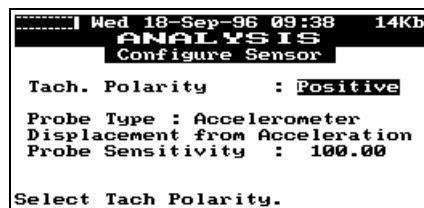

Figure 39
**1--Configure Sensor** This selection allows the user to specify the settings necessary for the type sensor currently in use. Select the option and press **[ENTER]**. The screen in figure 39 below will be displayed.